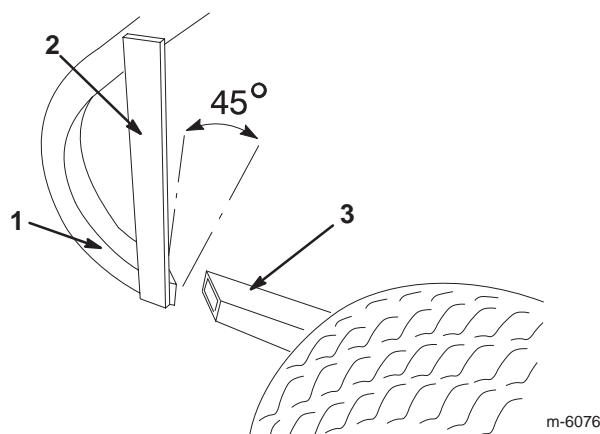

Figure 1
- Remove and discard the bolt, nut, and frame piece in front of the cut (Fig. 1).
- Cut the right side of the bagger frame just in front of the vertical brace. The cut must angle back at a 45 degree angle (Fig. 1).